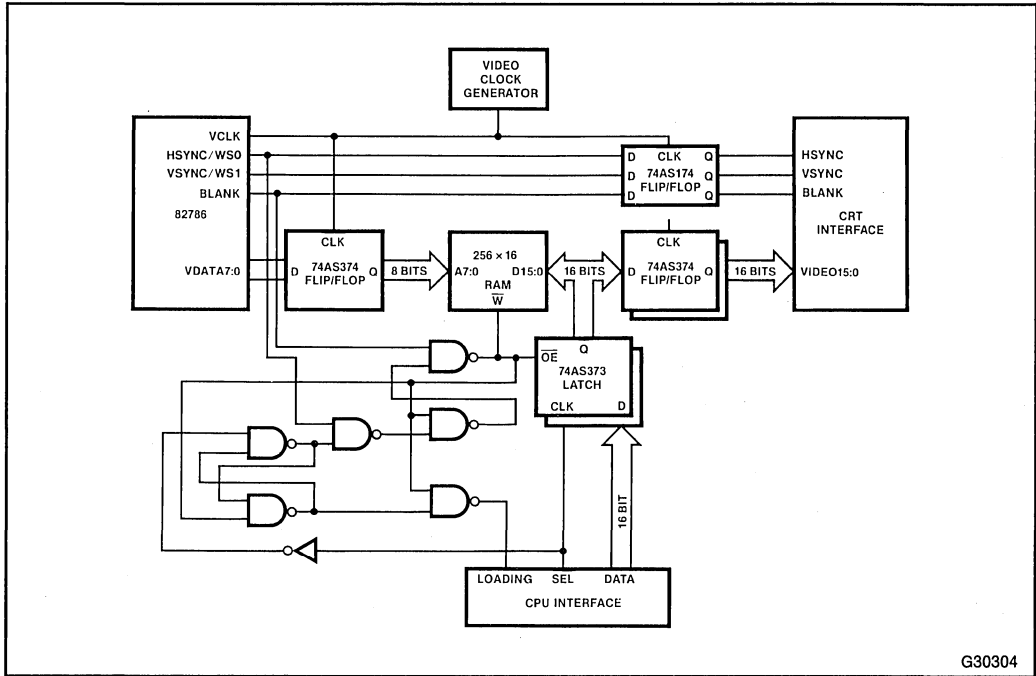
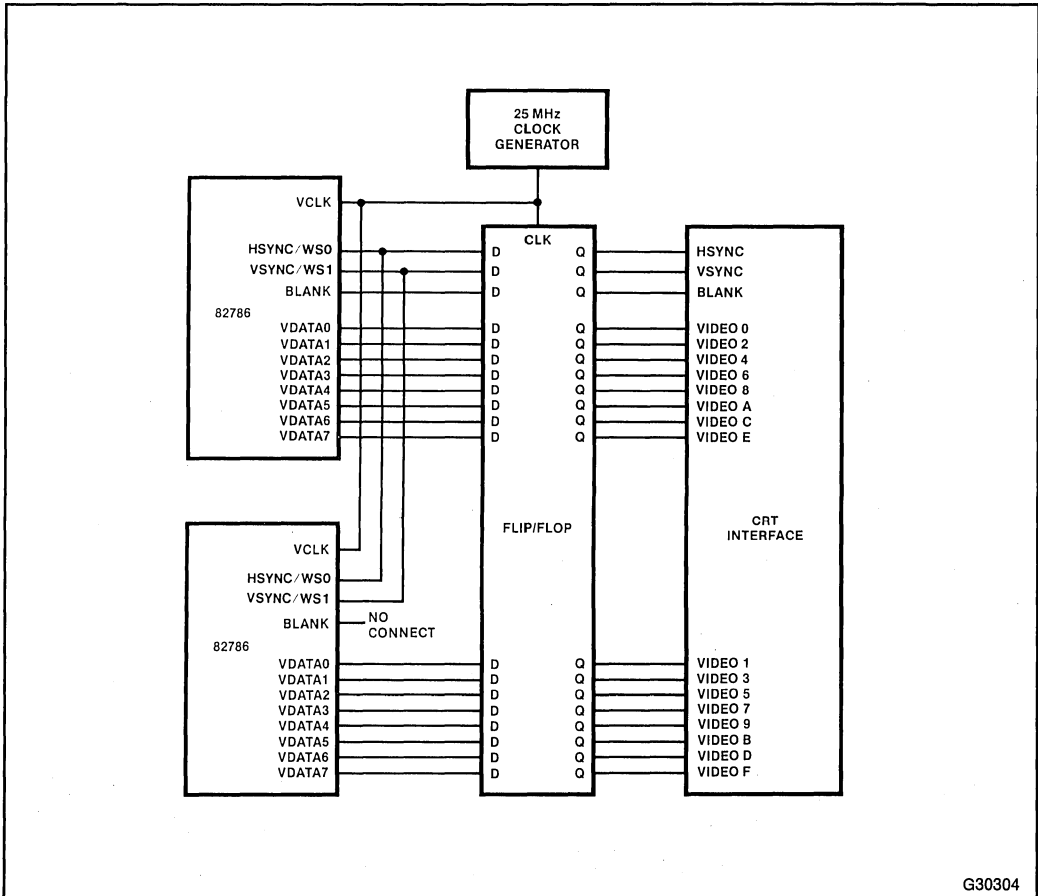

Figure 6-7. Color Lookup Table Circuit Generates 16 Video Bits from 8
Figure 6-14. Dual 82786s Generate 16 Bpp at 25 MHz
on the 8 VDATA pins during the horizontal and vertical Blank times by programming the Default Video Register (see Section 3.3.1 “Display Processor Internal Registers”). Then, the CPU can load the color value into the 16-bit latch. The circuitry in Figure 6-7 automatically writes the 16-bit value into the lookup table during the next HSync time.
Combining multiple 82786s in a system can provide greater resolution or colors than a system with one 82786. Figure 6-14 shows two 82786s used to generate 16 bpp at a 25 MHz video rate. This configuration would allow a 640 × 480 display with 65,536 colors.
In the system in Figure 6-14, both video signals must be kept synchronized. To do this, one 82786 generates master video HSync and VSync while the other 82786 is the slave receiving HSync and VSync signals from the master. To program the master 82786, set the HSync/VSync (S) and Blank (B) Slave Mode bits in the CRTMode Register to zero (0). To program the slave 82786, set the HSync/VSync (S) and Blank (B) Slave Mode bits in the CRTMode Register to one (1). For details on these bits, refer to Table 3-8 in Section 3.3.2 “Display Processor Control Block Registers.” The HSync and VSync lines of the slave 82786 then become inputs and are driven by the HSync and VSync output lines of the master 82786. If the Window Status signals are used, the master’s HSync and VSync signals should be qualified with the Blank signal (similar to Figure 6-7) to correctly drive the slave 82786 HSync